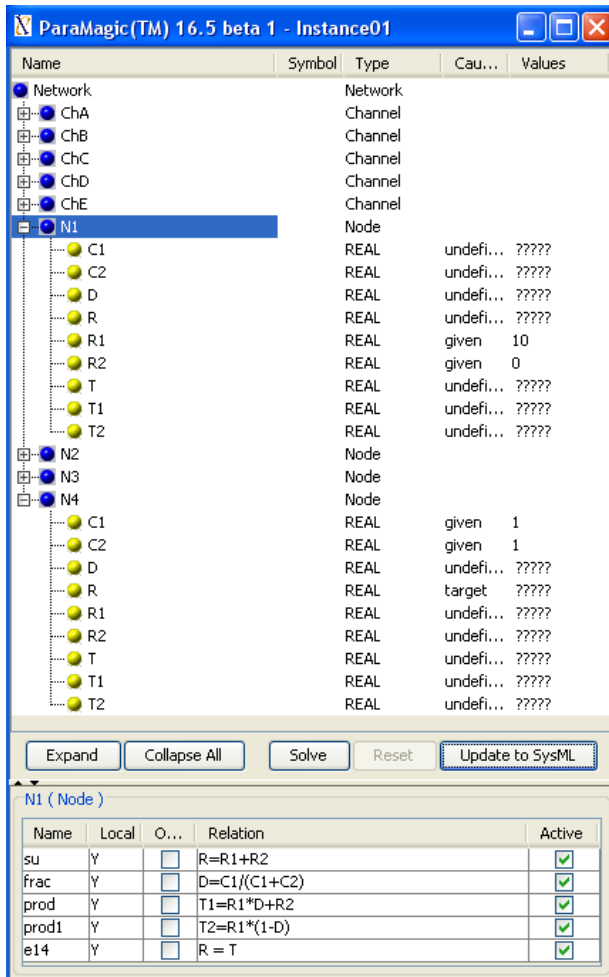

Figure 5.15 Browser for Instance01 before solution
- In Figures 5.15 and 5.16, only a few of the output variables are expanded to display. All of the values are available, however.